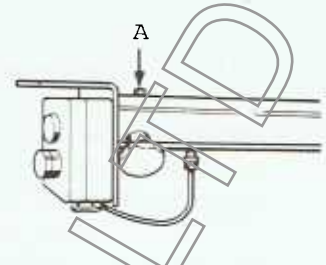

Fig. 3n
4. Fit the roller assy SM1545 to sliding table SM1544 see Fig 3j, one nut & washer each side of mounting flange. Then with the stop screw 'A', switch & locking handle (Fig 3n) removed. The table with its nylon rollers can be slid onto table rail and the roller assy SM1545